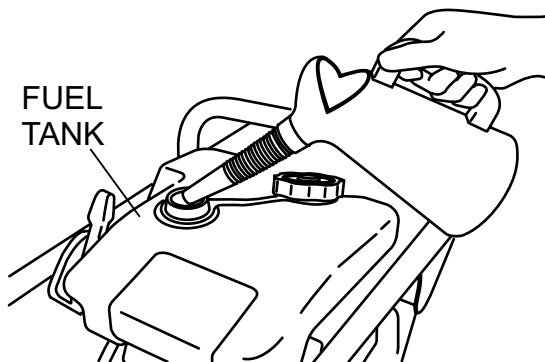
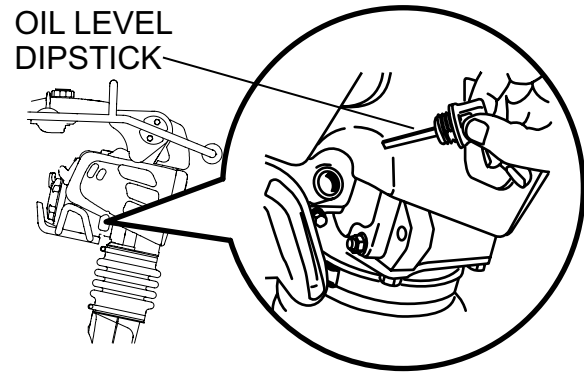

Figure 4. Fuel Tank
Figure 5. Engine Oil Dipstick
1. Fill the fuel tank (Figure 4) with unleaded gasoline. At the same time, check the engine oil and make it a habit to replenish it often (Figure 5).